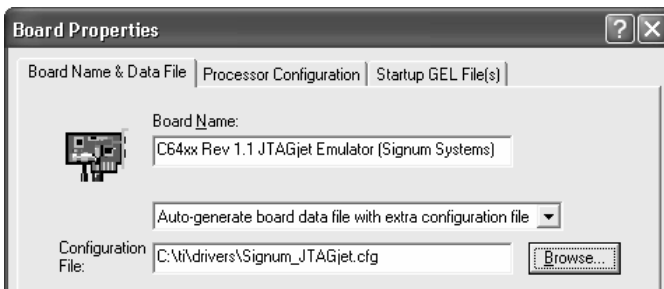

FIGURE 32 Using XDS510 Emulator drivers with JTAGjet.
3. Specify Auto-Command Board Data File with Extra Configuraton File In the Board Properties dialog box. Browse for the `Signum_JTAGjet.cfg` file and select it as the extra Configuration File (Figure 32).